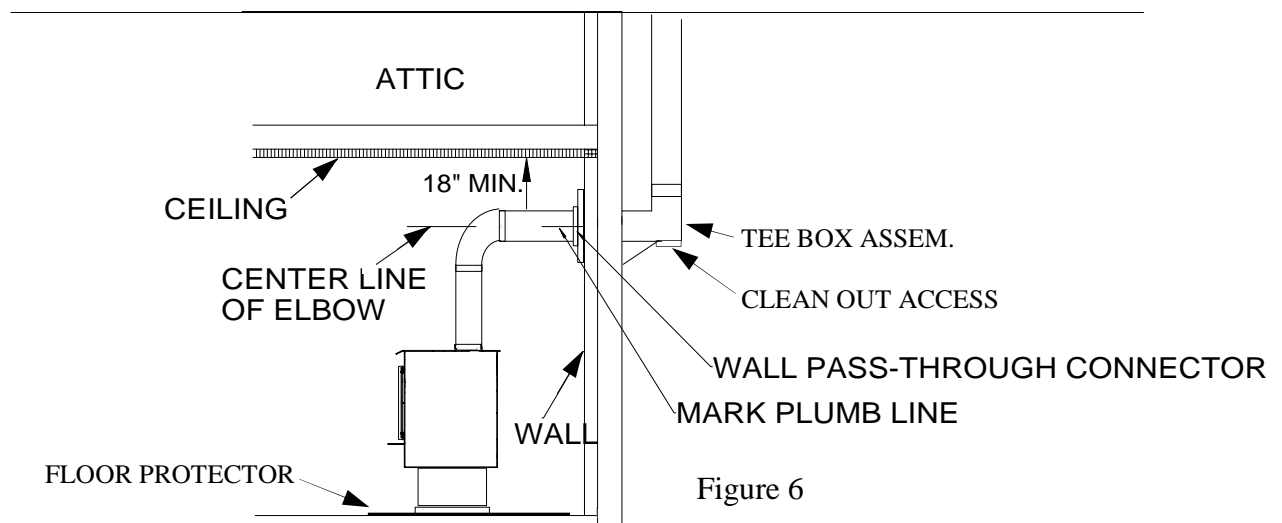

Figure 6
1. Mark plumb line on the wall directly behind center of heater. (See Figure 6).
maintaining clearances to ceiling as noted in Figure 6. This will give you center of hole for chimney penetration.